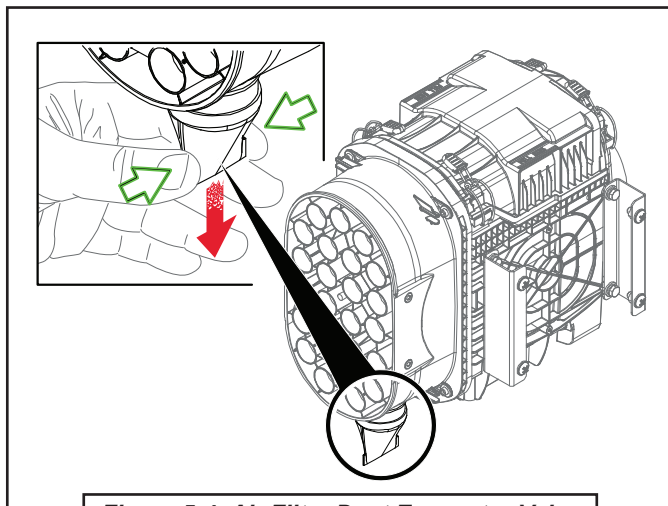

Figure 5-4: Air Filter Dust Evacuator Valve
Refer to **Figure 5-4**. Before removing the air filter elements, pull the dust collector cap from the bottom of the air filter housing and empty any accumulated dust or dirt. Replace the dust collector cap.
1. Evacuate the dust evacuator valve, as shown in **Figure 5-4**.